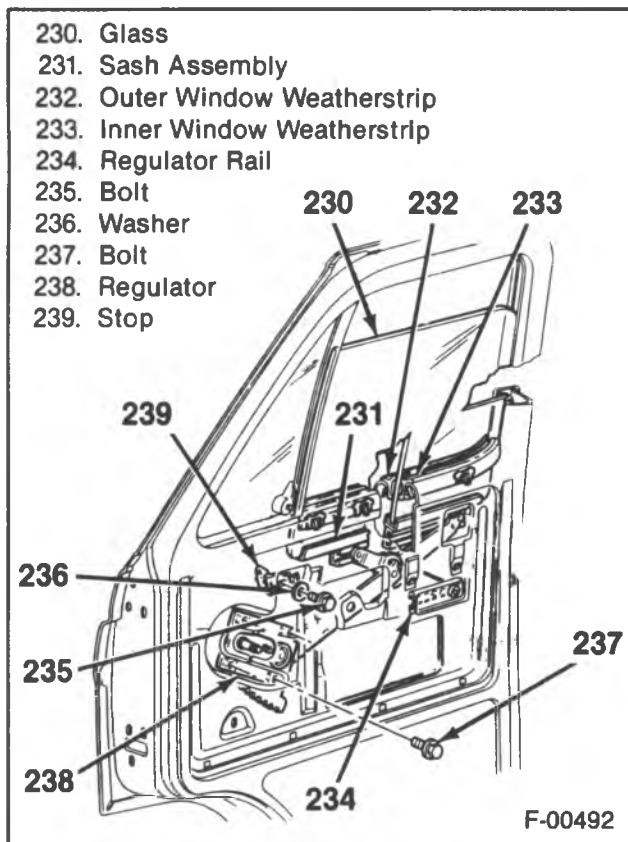

Figure 64 — Door Window Components
Remove or Disconnect (Figure 64)
Install or Connect (Figure 64)
3. Loosen the glass stop bolt, and adjust the stop until the glass is completely flush with the window sill (figure 64).